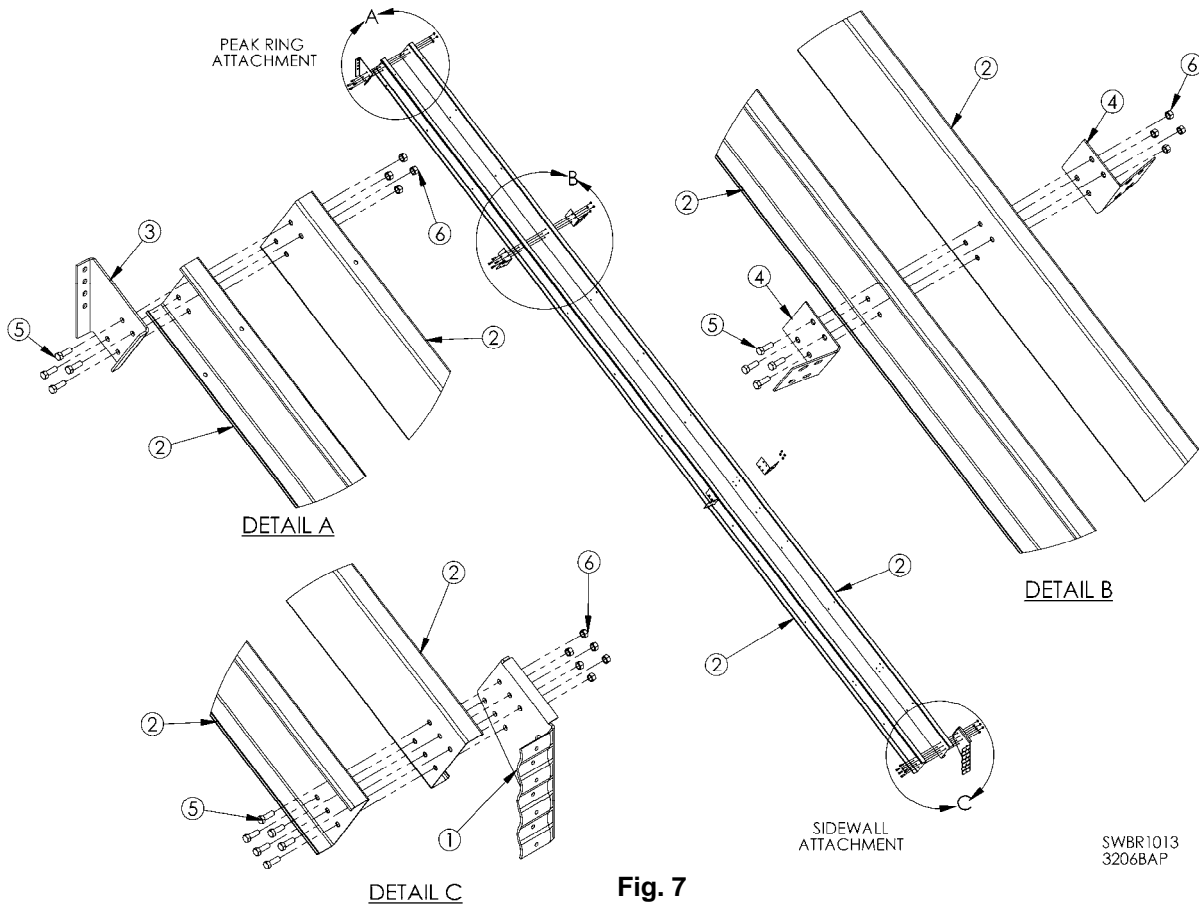

Fig. 7
30,000 lb. roof rafters consist of two (2) C-shaped channels. See Fig 7. Channels have bolt hole patterns allowing them to be joined back-to-back. Bolt purlin brackets to each side of rafter at specified locations using 1/2 x 1-1/4" bolts and 1/2" flange nuts as shown in Detail B of Fig. 7. When attaching brackets to rafters, bolts must pass through both rafter sections. **NOTE:** If temperature cable brackets are used, they must be attached at this time. Refer to temperature cable bracket assembly instructions near end of this section.
Attach peak ring rafter attachment brackets and sidewall rafter attachment brackets to rafter using 1/2 x 1-1/4" bolts and 1/2" flange nuts as shown in Details A and C of Fig. 7.